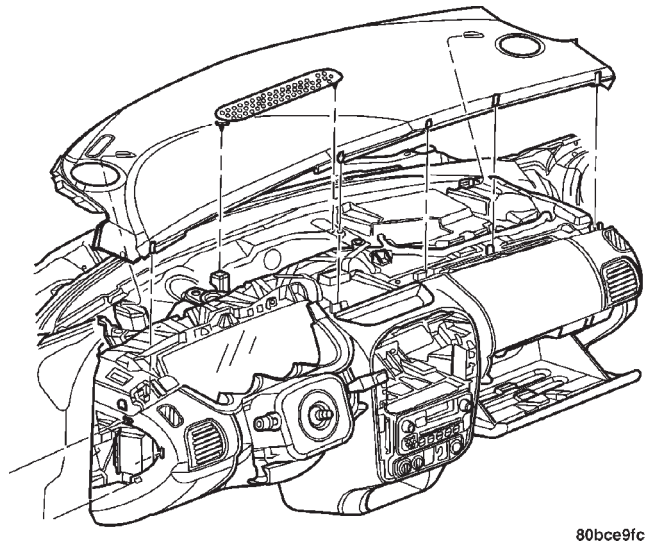

Fig. 6 Instrument Panel Speakers Remove/install
(2) Remove instrument panel top cover. Refer to Group 8E Instrument Panel Systems, Instrument Panel Top Cover Removal and Installation.
(3) Remove speaker retaining screws (Fig. 6).